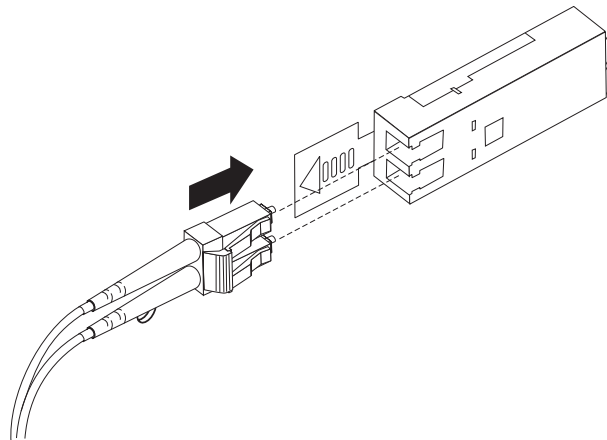

Figure 28. Inserting an LC-LC fibre-channel cable into an SFP module
4. Carefully insert this end of the LC-LC cable into an SFP module that is installed in the EXP810. The cable connector is keyed to ensure it is inserted into the SFP module correctly. Holding the connector, push in the cable until it clicks into place, as shown in Figure 28.